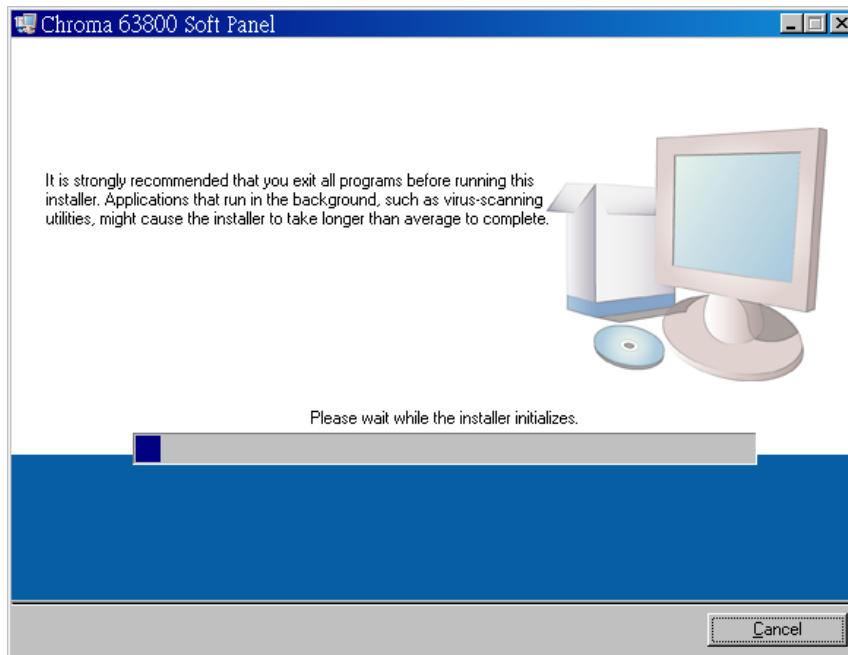

Figure 2-3 Chroma 63800 Soft Panel Startup Setup Screen
2. Click “**Chroma 63800 Soft Panel**”, *Figure 2-3* will be shown firstly.